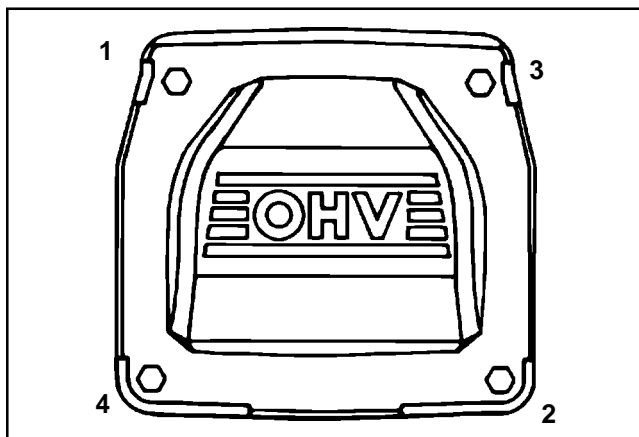

Figure 11-66. Valve Cover Fastener Torque Sequence.
5. Torque the valve cover fasteners to the proper specification using the sequence shown in Figure 11-66.